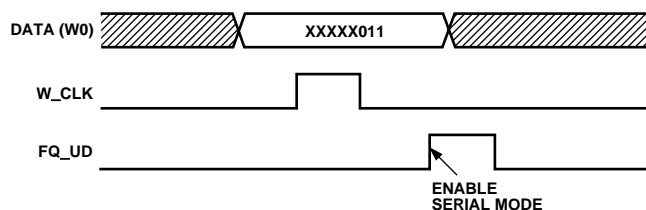
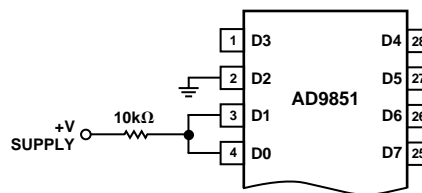
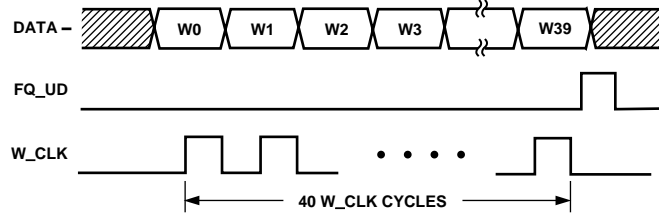

Figure 17. Serial-Load Enable Sequence
Figure 18. Hardwired xxxxx011 Configuration for Serial-Load Enable Word W0 in Figure 17
Figure 19. Serial-Load Frequency/Phase Update Sequence
In serial load mode, forty subsequent rising edges of W_CLK will shift and load the 1-bit data on Pin 25 (D7) through the 40-bit register in “shift-register” fashion. Any further W_CLK rising edges after the register is full will shift data out causing data that is left in the register to be out-of-sequence and corrupted. The serial mode must be entered from the default parallel mode, see Figure 17. Data is loaded beginning with W0 and ending with W39. One note of caution: the 8-bit *parallel* word (W0)—xxxxx011—that invokes the serial mode should be overwritten with a valid 40-bit serial word immediately after entering the serial mode to prevent unintended engaging of the $6\times$ REFCLK Multiplier or entry into the factory test mode. Exit from serial mode to parallel mode is only possible using the RESET command.
*This bit is always Logic 0 unless invoking the serial mode (see Figure 17). After serial mode is entered, this data bit must be set back to Logic 0 for proper operation.
Entry to the serial mode, Figure 17, is via the parallel mode which is selected by default after a RESET is asserted. One needs only to program the first eight bits (word W0) with the sequence xxxxx011 as shown in Figure 17 to change from parallel to serial mode. The W0 programming word may be sent over the 8-bit data bus or hardwired as shown in Figure 18. After serial mode is achieved, the user must follow the programming sequence of Figure 19.
Note: After serial mode is invoked, it is best to immediately write a valid 40-bit serial word (see Figure 19), even if it is all zeros, followed by a FQ_UD rising edge to flush the “residual” data left in the DDS core. A valid 40-bit serial word is any word where W33 is Logic 0.